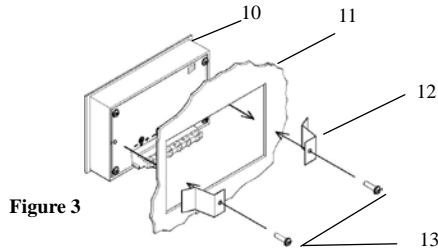
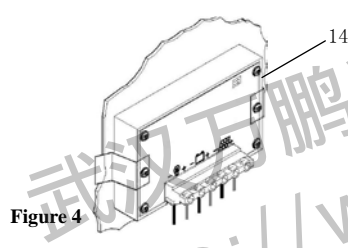

Figure 3
Figure 4
- 2.1 Plug in the controller to the board (Figure 3), Size of installation window 105 * 67mm(±0.5mm).
- 2.2 Screw the controller (Figure 3), fixed with brackets. See (Figure 4)